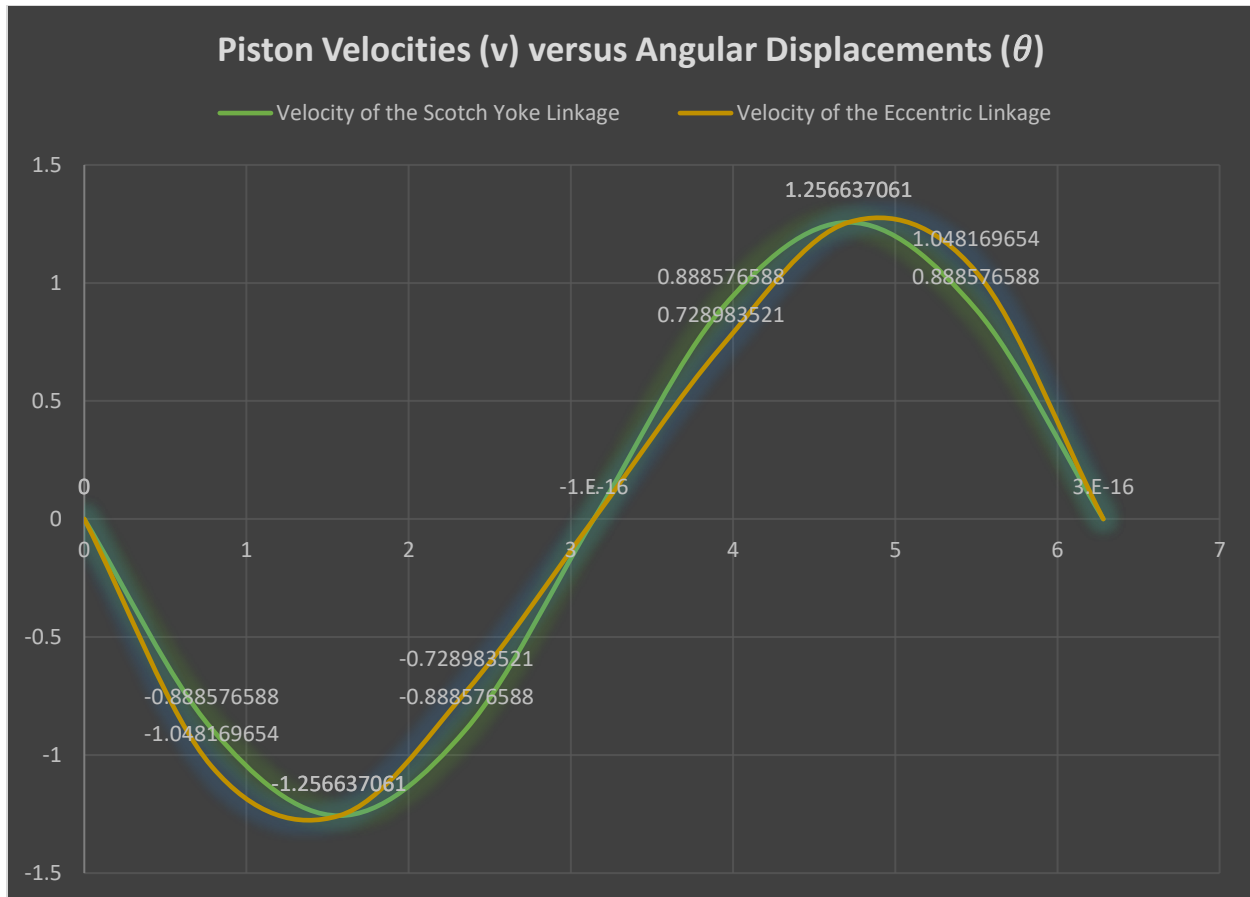

Figure 3
For Figure 3 we use equation (15) and plot the values (16) to obtain the given results for the graph [ $V_1$  (*Scotch Yoke linkage*) and  $V_2$  (*Eccentric linkage*)]. The results are based on one complete revolution:  $0 \leq \theta \leq 2\pi$ .
Given these results, we can compare our graph (Figure 3) with the derivations we have done to solve for the Eccentric linkage, and we can determine that the values agree for both the graph and mathematical approach making our problem solvable.
The comparison between the linkages of a flywheel to a piston by the Scotch Yoke linkage and the Eccentric method is done. By using calculus, we obtain the values of their velocities ( $v$ ) and specified angular displacements ( $\theta$ ) when they reach their maximum magnitude. Also, by having the values of the angular displacement and using the equations that are obtained in the paper we present a graph (Figure 3) that shows the velocities ( $v$ ) versus the angular displacement ( $\theta$ ) for a complete revolution of the rotational motion for:  $V_1$  (*Scotch Yoke linkage*) and  $V_2$  (*Eccentric linkage*).